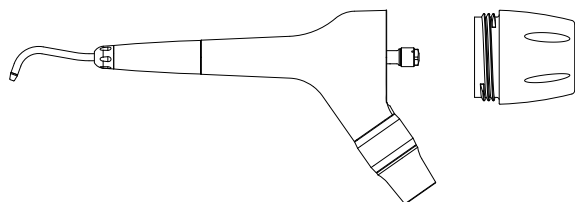

Figure 4
1. Screw out the powder chamber. (See Fig. 4)